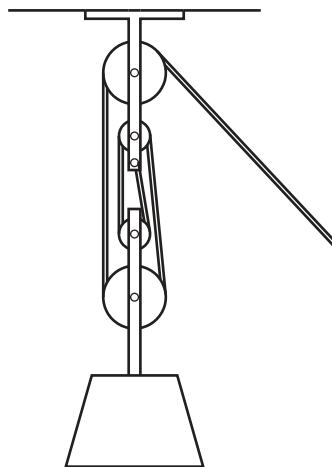

Fig. 10
(b) Fig. 10 shows a pulley system used for lifting heavy loads.
- (iii) The pulleys shown in Fig. 10 are made from hardwood with a hole drilled through to act as a plain bearing.